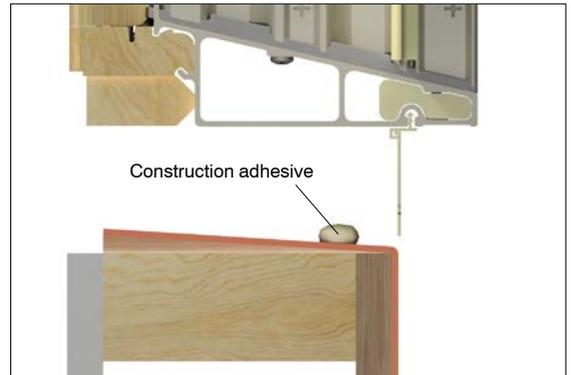
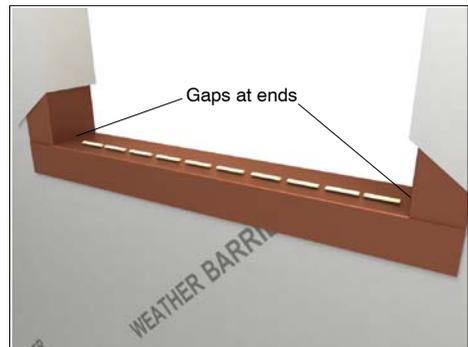

Figure 3: Apply construction adhesive to RO sill.
Figure 4: Discontinuous bead of construction adhesive.
Must be adhered to the sill with a discontinuous 5/16" (8) bead of construction adhesive on the framing sill where it will contact the window or door frame sill.¹ See figure 3. Leave approximately 2 (51) gaps on the ends. See figure 4.